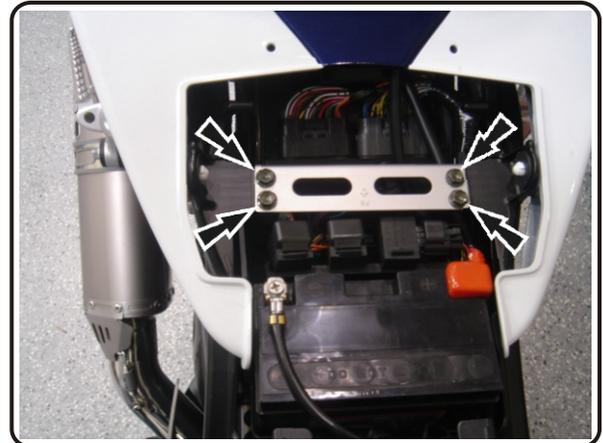

Fig. 1
- 16 Before starting motorcycle, check for proper clearance between new exhaust system and motorcycle. (i.e. radiator, oil pan, swing-arm, etc.) If any problem is found, please carefully follow through the installation steps again. If problem still persists, please call Yoshimura tech. dept. at (800)634-9166 / in CA (909)628-4722.
- 2 Remove rider seat and metal brace located over the ECU by removing the four bolts (See Fig. 1).